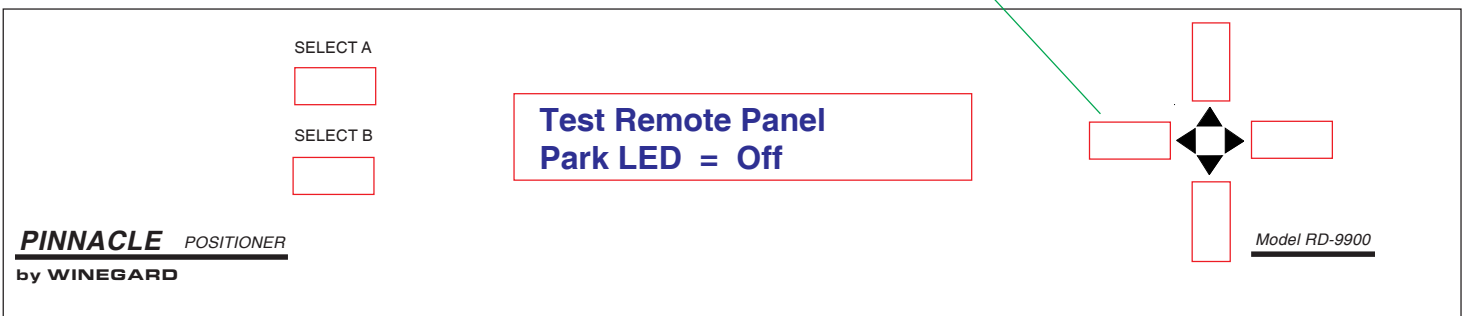

Figure 18
11. Press **[LEFT] arrow button** twice. Park LED will extinguish on remote panel when **Park LED = Off** is displayed on positioner. See Figure 18.